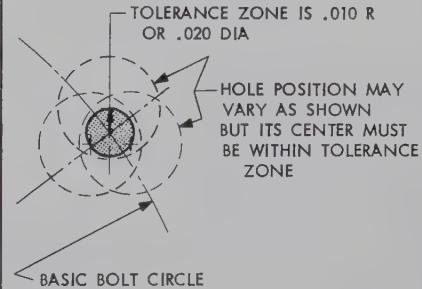
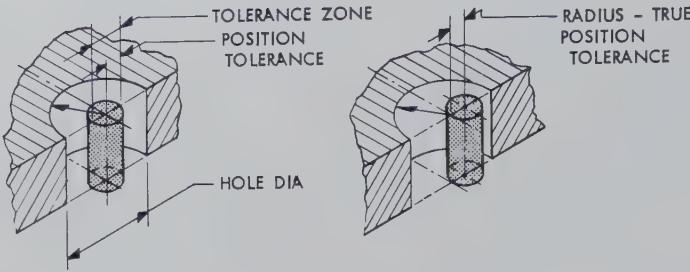

FIG. 12
FIG. 13
**True Position:** The application of this term means that the part feature to which it is applied is located to a true or exact position by basic untoleranced dimensions. The amount of variance from this true position is then stated in a note. Fig. 12 shows an example of true positioning as applied to holes. The centers of the eight equally spaced holes are located by a basic untoleranced bolt circle dimension. This dimension plus the eight equally radial lines establishes the true or exact position of the hole centers. The note allows the manufactured hole center to vary around this true position within a zone tolerance of .010 radius or .020 diameter. Fig. 13 illustrates the relationship of the axis of an actual hole and the true position tolerance zone. In terms of the axis, it means that the axis of each hole at all sections along its length must fall within the specified cylindrical tolerance zone whose cen-